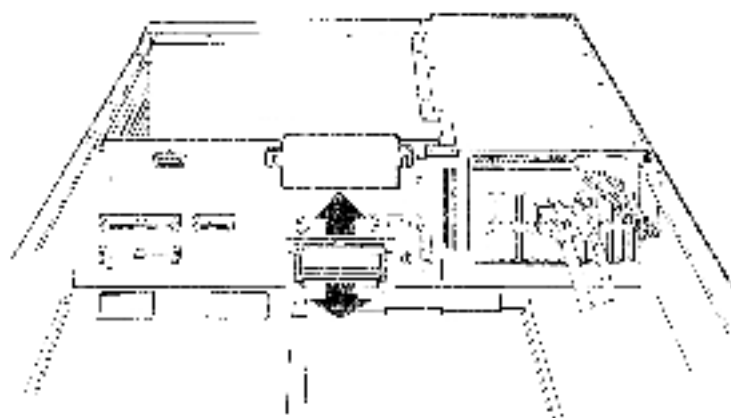

Figure 8-17 Access Cover Removal
6. Remove the two screws retaining the access cover and remove the cover (Figure 8-17).